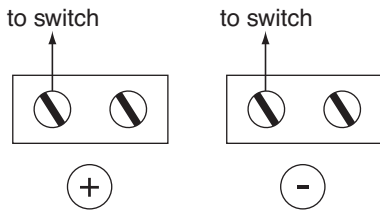

Figure 1
1. SPST reed switch: Connect wiring to switch leads or terminals per wiring diagram. See figure 1.